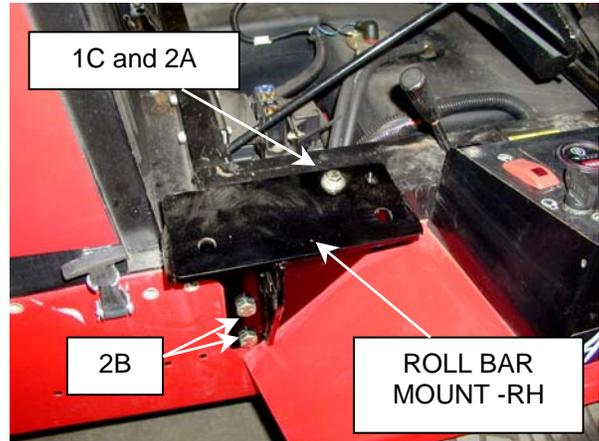

Figure 1
- C. Remove two 5/16" x 2-1/2" bolts from seat deck frame. Figure 1 and 2.
- A. Install right and left mounts onto tractor using 5/16" x 3" Grade 5 bolts, flat washers and lock washers as shown in Figure 1 and 2.